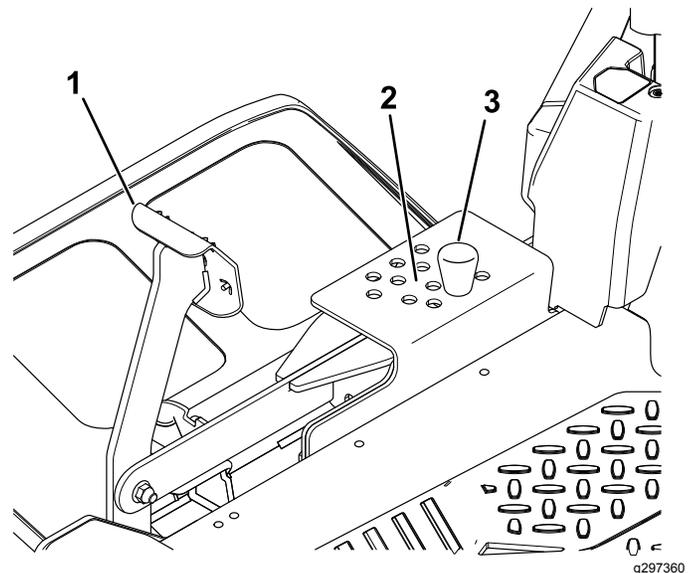

Figure 22
2. To adjust, remove the pin from the height-of-cut bracket (Figure 22).
3. Select a hole in the height-of-cut system corresponding to the desired height of cut and insert the pin (Figure 22).